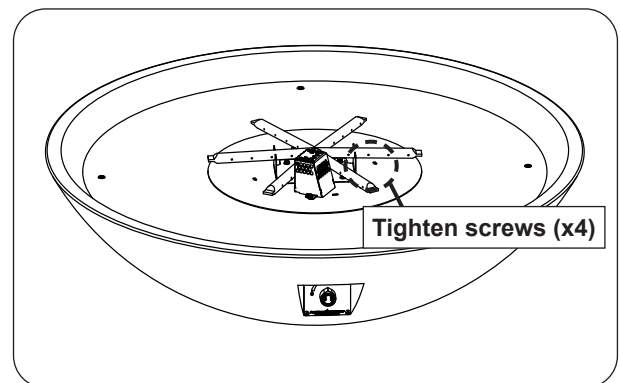

Fig. 30-3 Reinstall burner (if applicable)
2. Use a $\frac{5}{16}$ " nut driver to fasten the burner to the base (see Fig. 30-3).